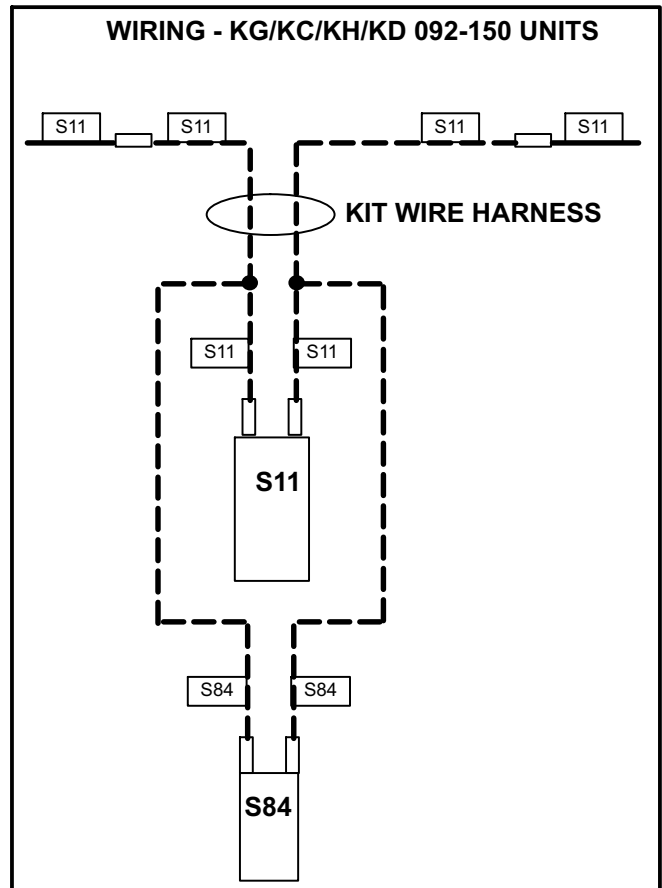

FIGURE 13
- 2- Locate shorter kit harness and connect wires as shown in figure 13.